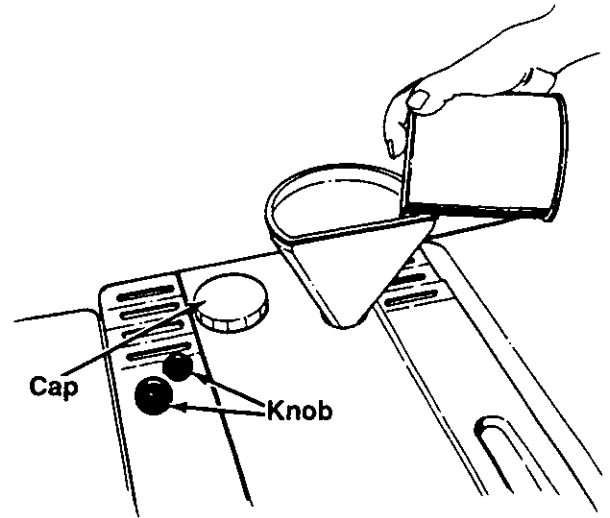

FIGURE 18.
4. If it is necessary to add oil, unscrew the cap on the reservoir/expansion tank and add oil through the hole with a funnel. Do not overfill. See figure 18.